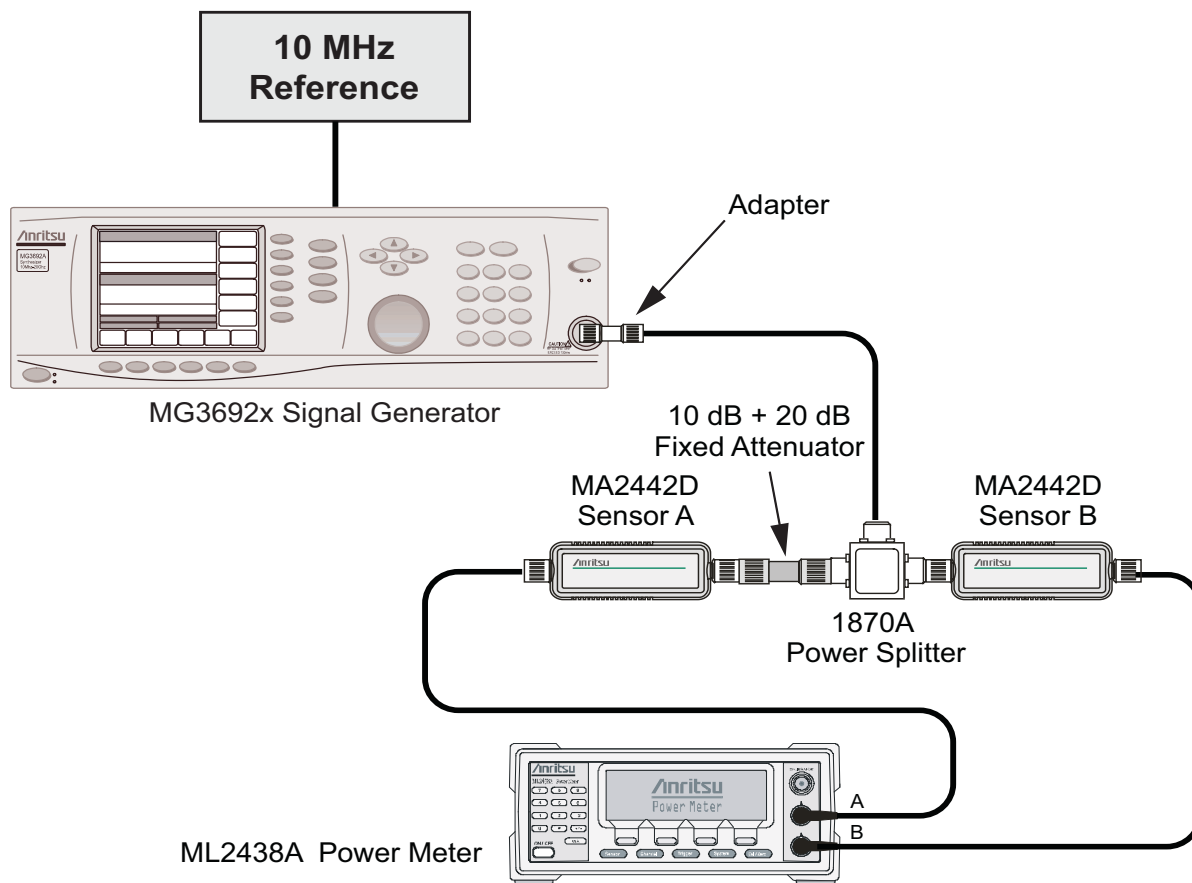

Figure 2-5. Pre-Amp Fixed Level with Varying Frequency Setup
2. Connect the equipment as shown in Figure 2-5.